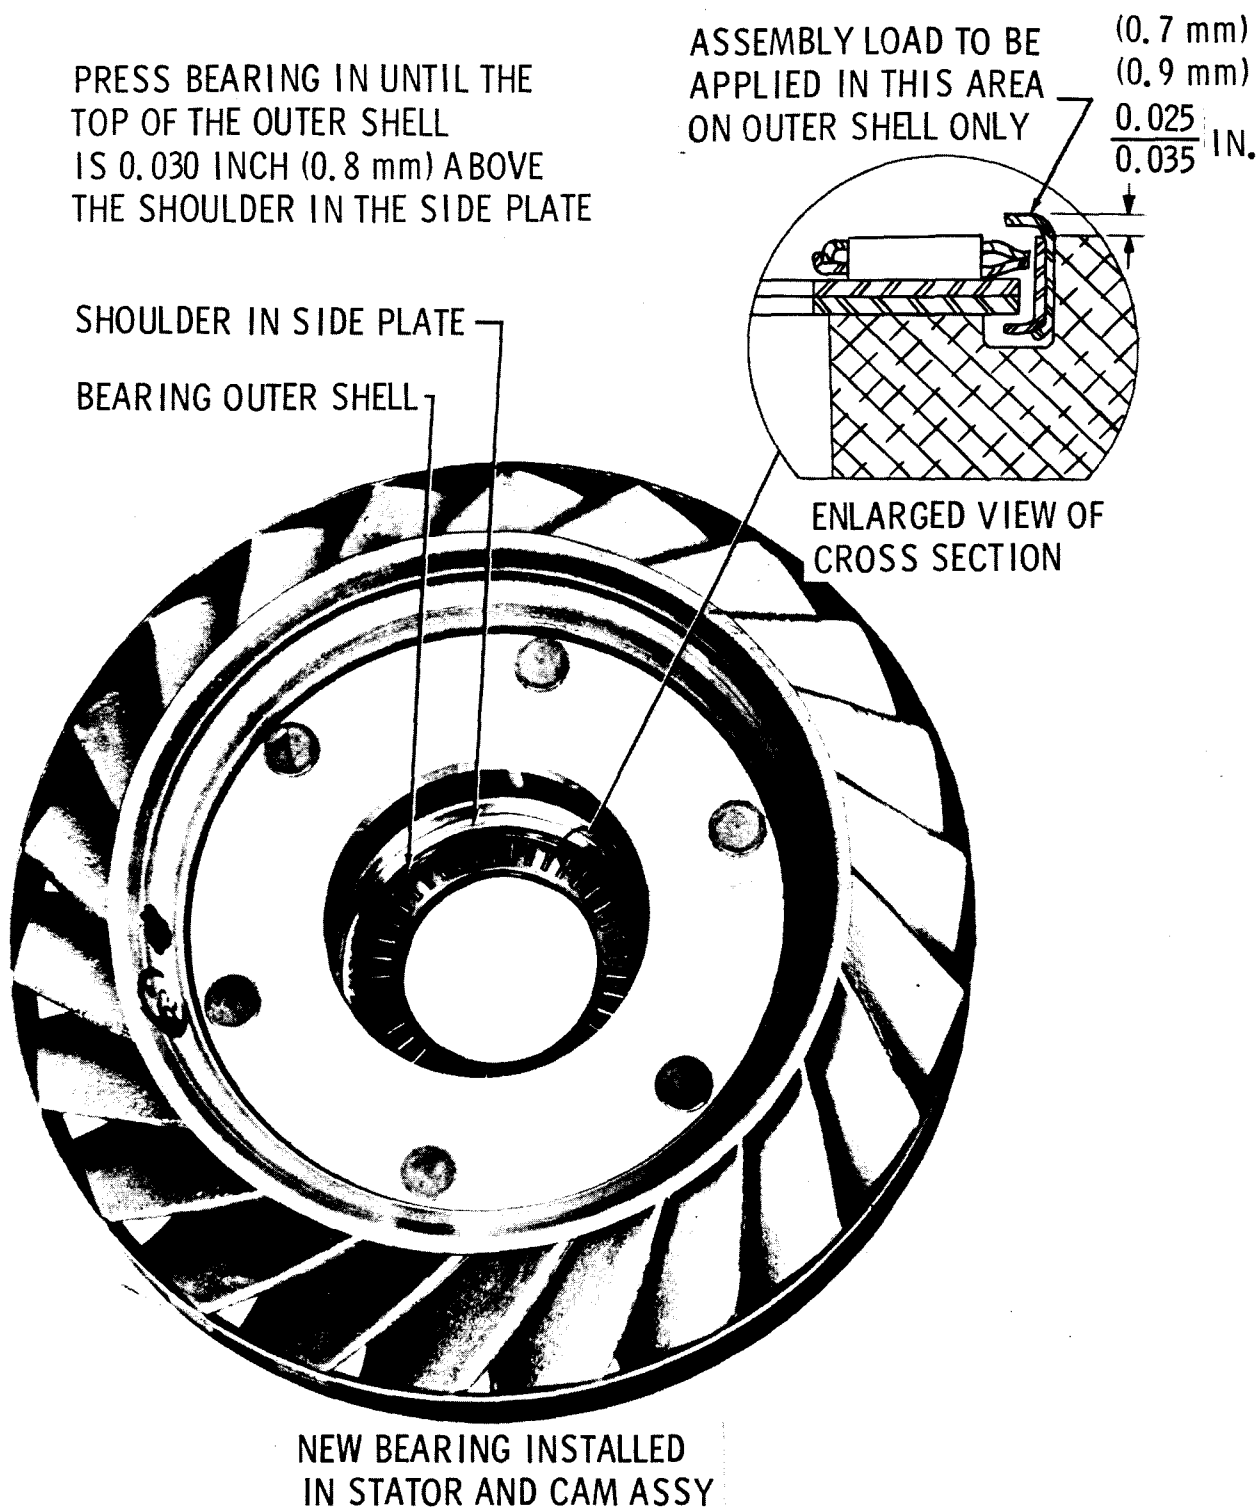

Fig. VI-12. Installation of thrust bearing assembly in stator assembly
c. Assembly (item 3, B, foldout 7)
(1) If bearing assembly 4 was removed, install a new bearing assembly. The bearing assembly must be installed as shown in fig. VI-12. A special tool (sect. IV, para 2b(4)) should be used to insure proper assembly.